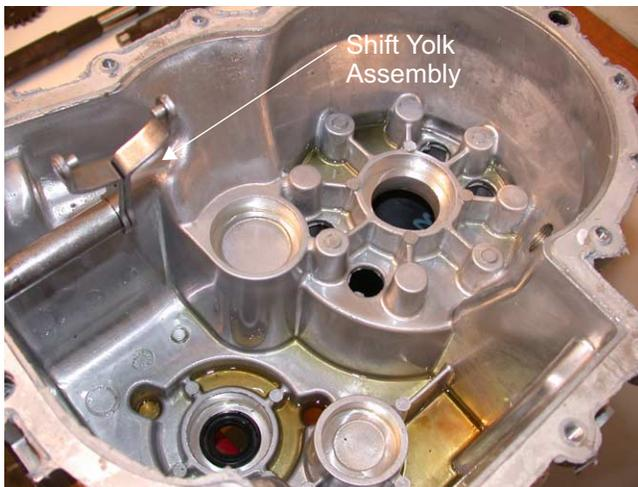

Figure 8.31
8.31. Inspect the shift yoke assembly. See Figure 8.31.